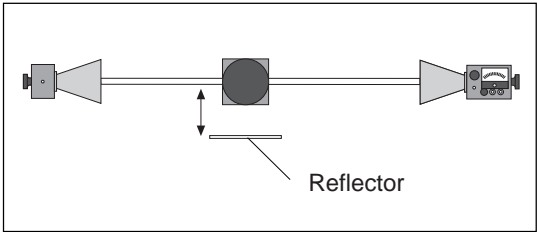

Figure 1.3 Reflections
- ⑥ Set **R** to between 50 and 90 cm. Move a Reflector, its plane parallel to the axis of the microwave beam, toward and away from the beam axis, as shown in Figure 1.3. Observe the meter readings. Can you explain your observations in steps 5 and 6? Don't worry if you can't; you will have a chance to investigate these phenomena more closely in Experiments 3 and 8, later in this manual. For now just be aware of the following: